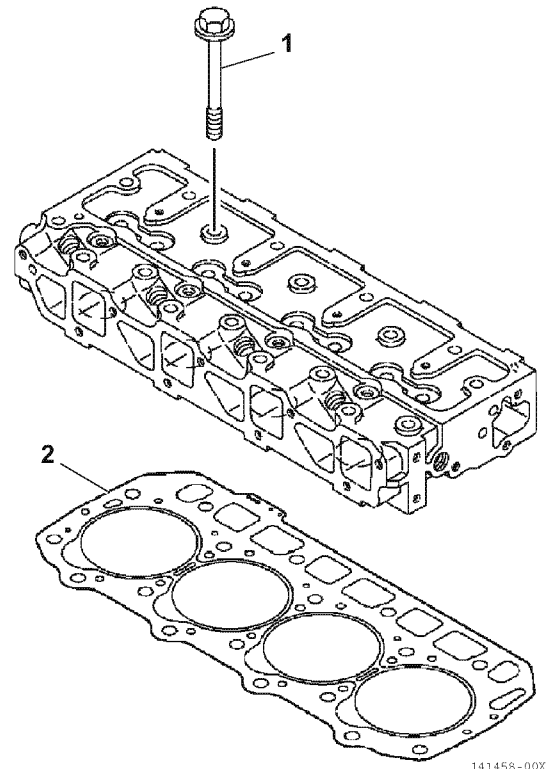

Figure 6-35
- Carefully clean both the combustion surface of the cylinder head and the top surface of the cylinder block. Then place a new cylinder head gasket (2, **Figure 6-35**) on the cylinder block.
Lightly oil the threads of the cylinder head bolts (1, **Figure 6-35**). Tighten the bolts to the specified torque in two steps as shown in the chart below. Tighten in the sequence shown in (**Figure 6-36**). See *Special Torque Chart on page 6-15 for specification*.
Follow the steps below to tighten the cylinder head bolts (1, Figure 6-35).